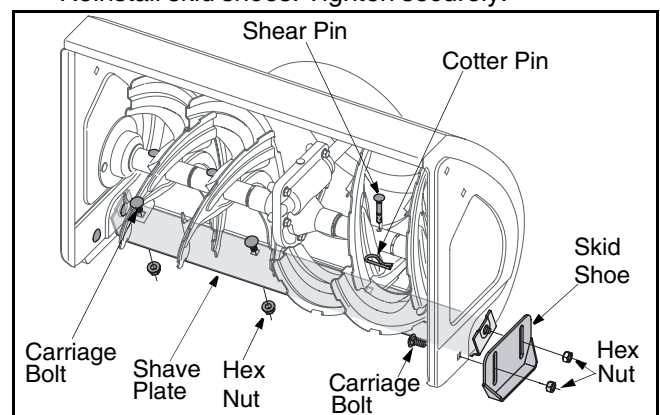

Figure 12
- Remove two carriage bolts, and hex nuts which secure each skid shoe to the auger housing. See Figure 12.
- **To remove shave plate:** Remove both skid shoes and hardware including carriage bolts, and hex nuts which attach shave plate to the snow thrower housing. For location of shave plate, see Figure 12.
The augers are secured to the spiral shaft with four shear pins and cotter pins. If you hit a foreign object or ice jam, the snow thrower is designed so that the pins may shear. Refer to Figure 12.